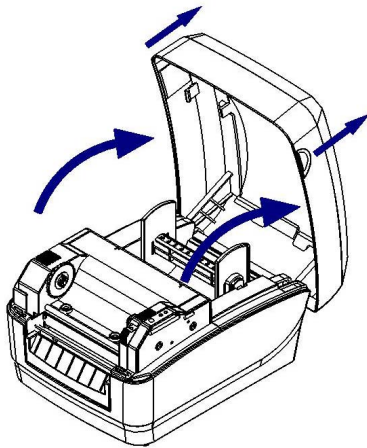

Figure 2.4.1
- 1) Push up the top cover with two hands according to the arrows in figure 2.4.1 and open it.